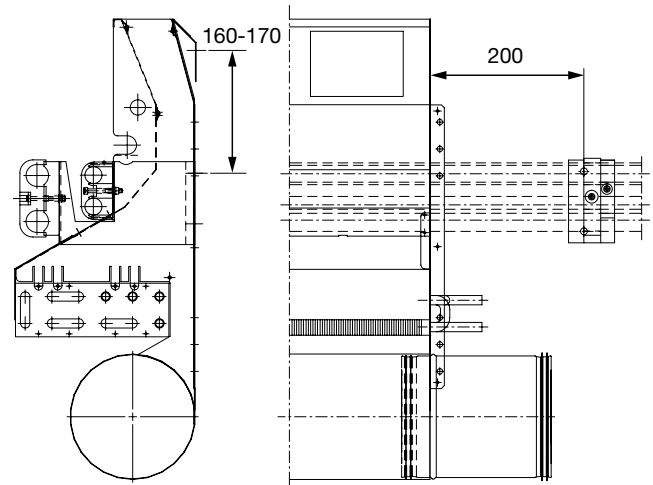

Figure 3. Distance between unit and pipe support bracket.
1. The pipe support bracket is located 160-170 mm (to the top screw hole) below the marks. The pipe support bracket must sit at least 200 mm from the right-hand end of the unit. (See figure 3).